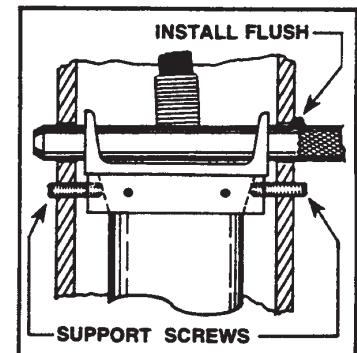

FIG. 5
5. Install the six ram support screws, see FIG. 5.
IMPORTANT: After installing the bolster pins, adjust the support screws (FIG. 5) evenly until the ram assembly is centered. The ram assembly must be positioned so the bolster pins can be easily installed. Repeat this procedure for the two additional ram positions.
8. Adjust the set screws to the proper depth. See FIG. 5.
Once the ram is in the desired position, secure in place using both bolster pins. (See FIG. 5).
WARNING: Both bolster pins must be inserted until their stops are flush against the tube wall. (See FIG. 5.)